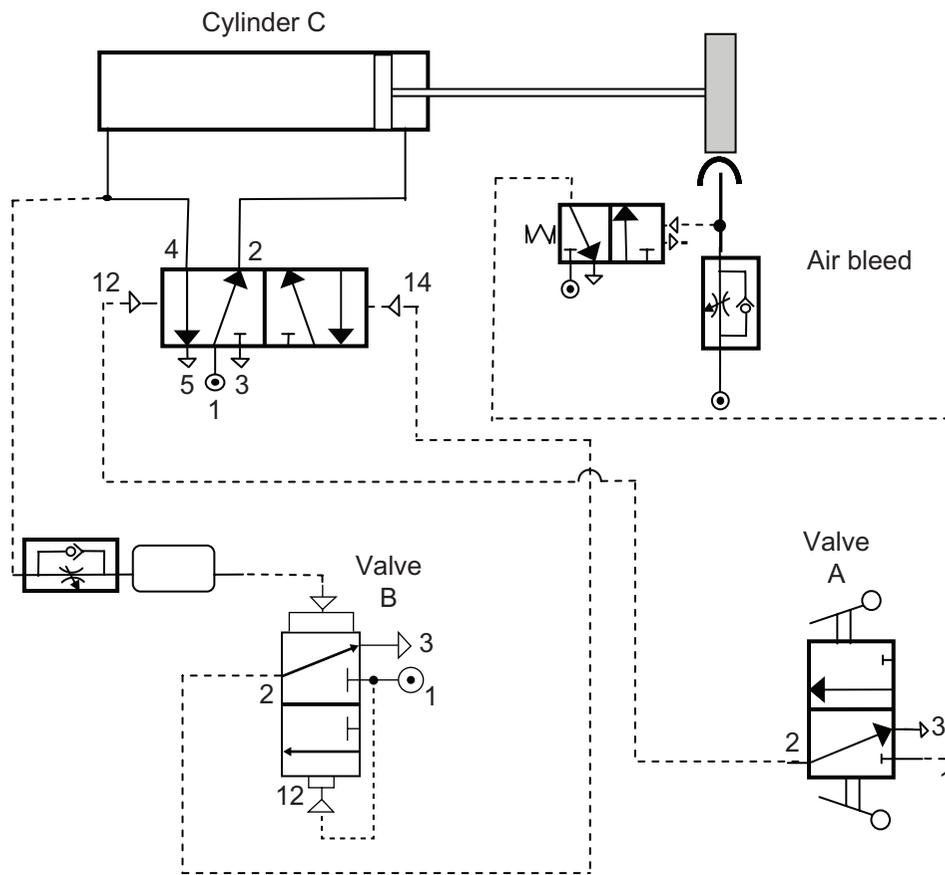

Fig. 4(b)(i)
- (b) (i) Explain how the circuit in **Fig. 4(b)(i)** operates; starting with activation of the air bleed (your answer should include a detailed explanation of the operation of valve B). [5]
- (ii) Calculate the work done by cylinder C in **Fig. 4(b)(i)** if the force required to outstroke is 1098.3N and the distance moved by the force is 600mm. In your calculation ignore friction. [2]
- (iii) With reference to **Fig. 4(b)(iii)** calculate the volume of air consumed by the cylinder as the piston rod moves through one cycle. Then calculate the maximum number of complete cycles that could be made by the piston rod per minute if the compressor has a capacity to produce 337.283 litres per minute.